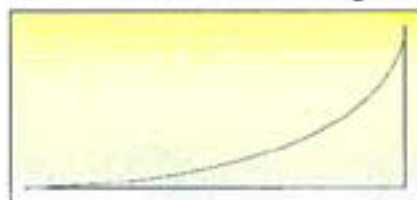

Figure 4. The first step in convolution is to reverse (in time) a circuit's time response. This is the result of reversing the response shown in Figure 3.
- First, the time response is reversed in time (Figure 4).